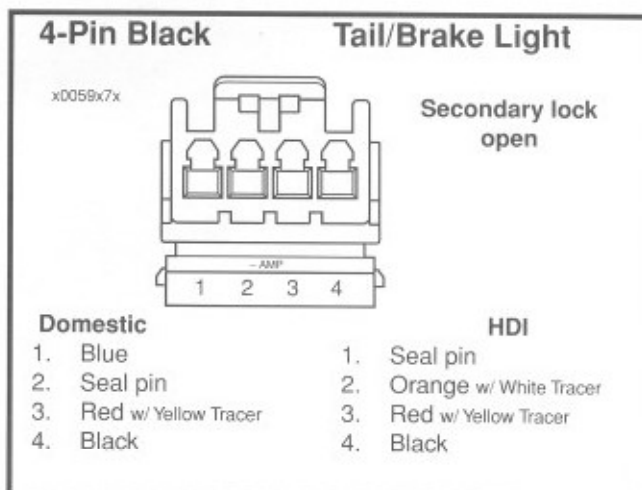

Figure 2-93. Amp Connector
10. Fit rear wire seal into back of socket housing, if removed. Gently push sockets through holes in wire seal into their respective numbered chambers. See Figure 2-93 for wire color locations. Feed socket into chamber until it snaps in place. Slightly tug wire to verify that socket will